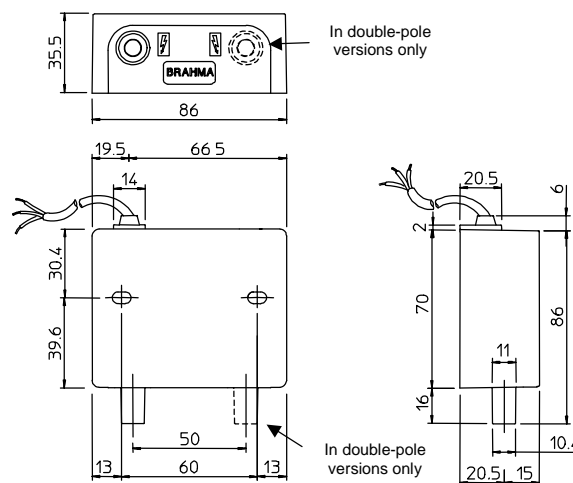
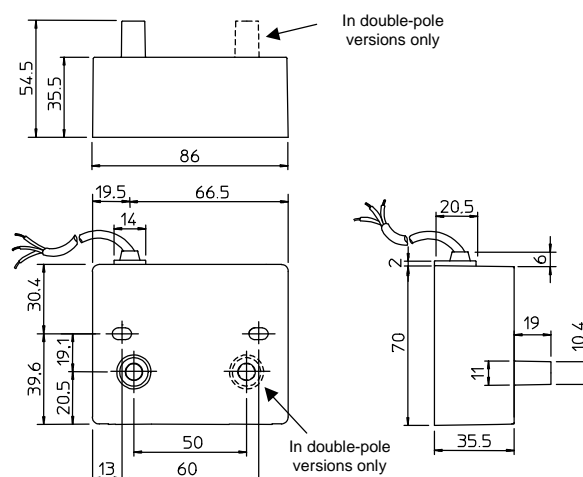
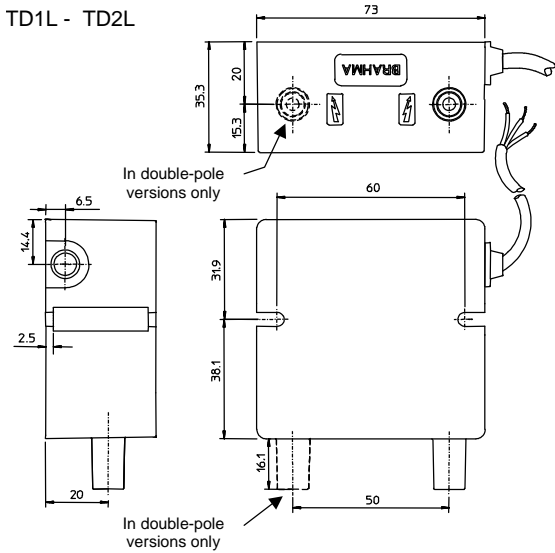
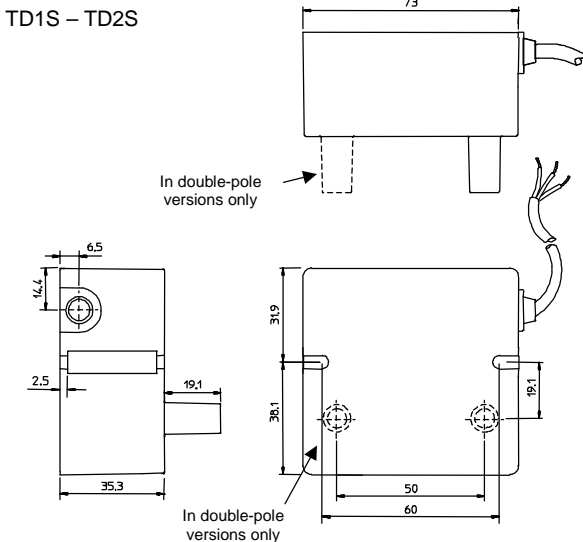

Fig. 1
Fig. 2
Fig. 3
Fig. 4
The TD series differs from the TC series for its more reduced overall dimensions; Fig.1, Fig.2, Fig.3 and Fig.4 show the main dimensions of both transformer series.
- C: cable power supply (Fig. 1, 2, 3 and 4);
- L: lateral isolators (Fig. 1 e 3);
- S: bottom isolators (Fig. 2 e 4);